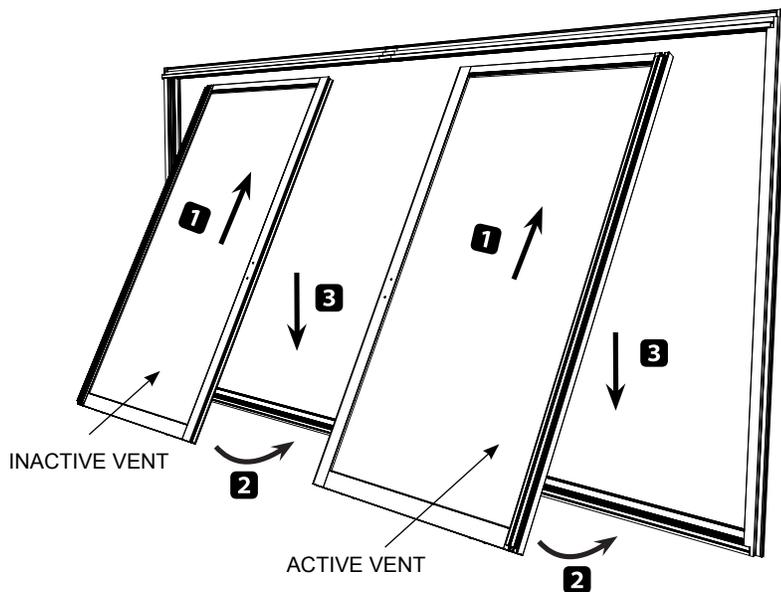

FIG. 41
1. Install both vents from the exterior side. (FIG. 41)